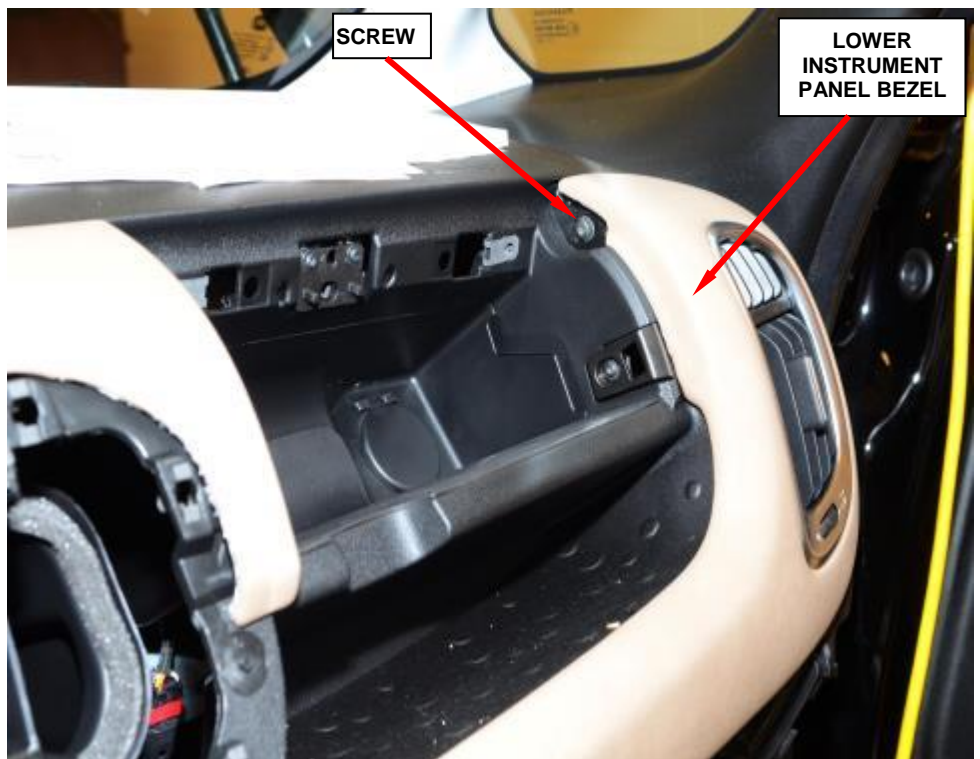

Figure 29 - Instrument Panel Bezel Screw
37. Remove and save the lower instrument panel bezel screw (Figure 29).
86. Insert the lower instrument panel bezel retaining clips fully (Figure 29).
87. Install the lower instrument panel bezel screw and tighten securely (Figure 29).